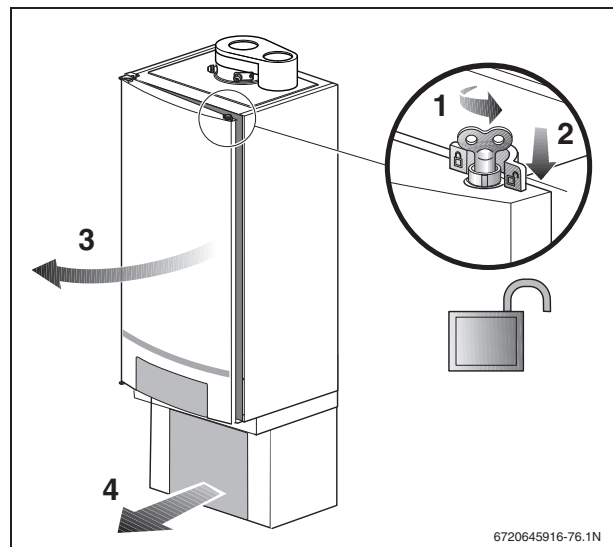

Fig. 75 Opening the boiler door
- Turn the vent key through a quarter rotation to undo the boiler door lock (fig. 75.step 1).
- Push the fastener down (fig. 75.step 2) and open the boiler door.